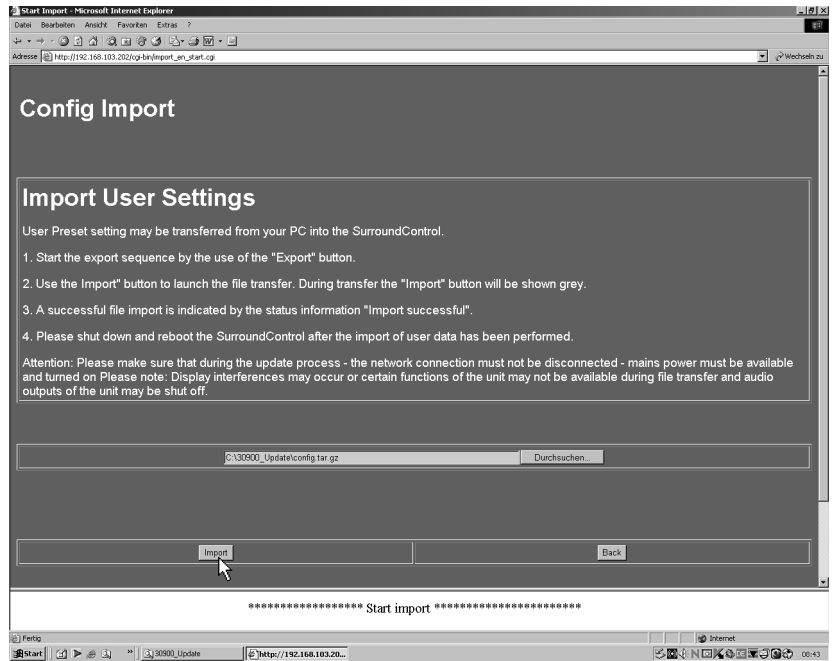

Fig. 5-21: Starting the import
- A click to the Import button starts the data transfer to the SurroundControl 30900(-24) (see Fig. 5-21). If the Import button is not visible move the menu page upward by using the scrollbar on the right. **Please make sure that no interruption of the network access or supply power occurs during the download sequence.**